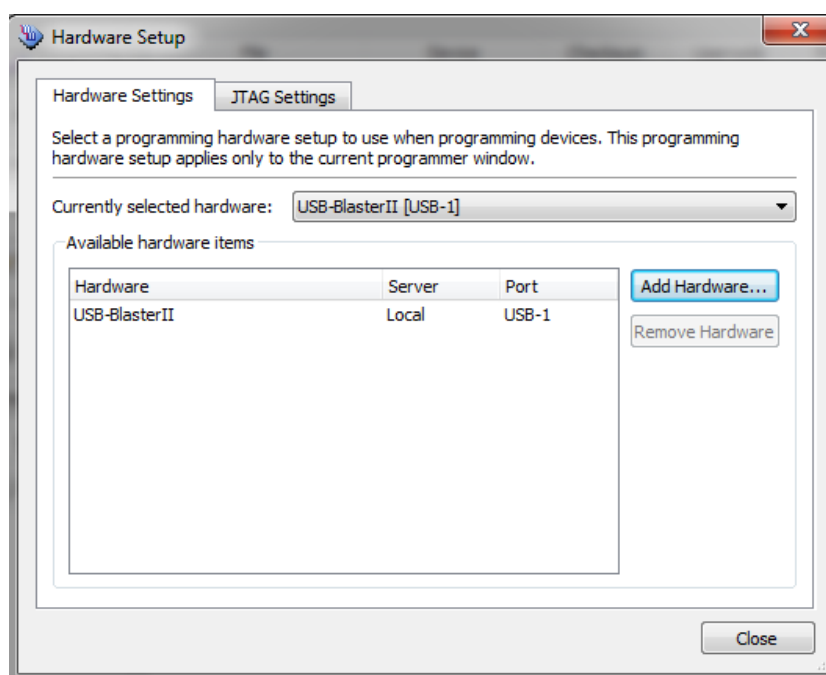

Figure 4-4 Hardware Setting
3. If it is not already turned on, turn on the USB-BlasterII [USB-1] option under currently selected hardware. See Figure 4-4.